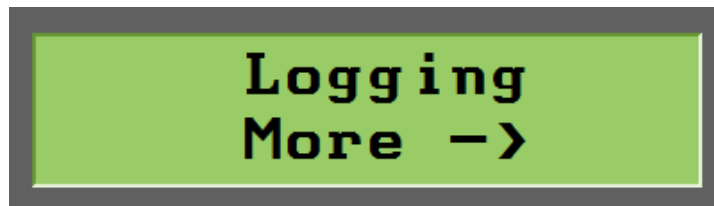

Figure 5-6. Logging Submenu
6. Using the up or down arrow, scroll to find the Logging submenu as shown in Figure 5-6.